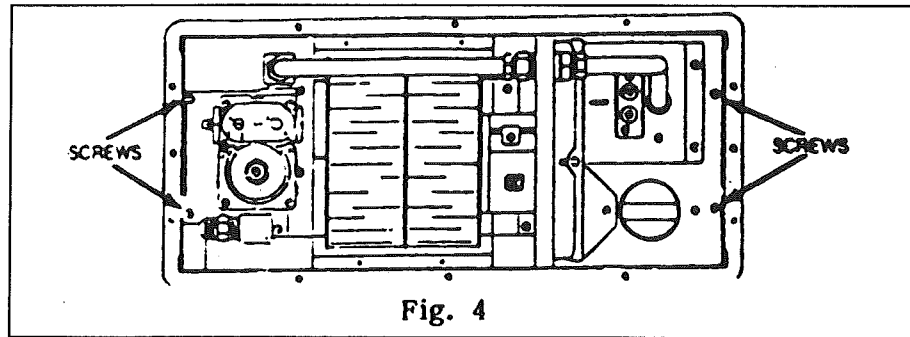

Fig. 4
In order to prevent leakage of combustion air from the sealed system, there are gaskets in the following places. These gaskets must be in place and undamaged. See Fig. 4 for gasket locations.
4. Remove six screws on the left inside of the control box and the two screws on the right inside of the control box. See Fig. 4.